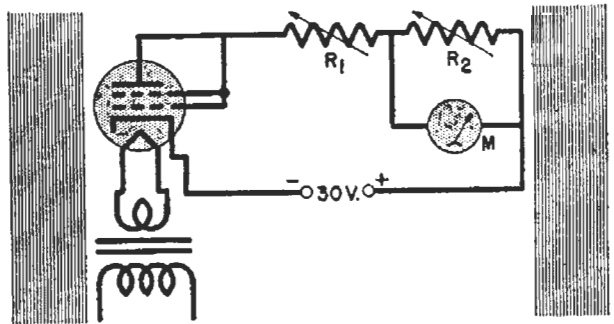

FIG. 22. The basic emission tester circuit.
► Since emission tests are all that could be made on diodes, it is natural to consider checking just the emission of all tubes, assuming that if the cathode emission is normal, the mutual conductance and other factors are probably acceptable. This led to the development of the emission type tester, in which all tubes are converted to diodes and the plate current is measured. The basic circuit for a tester of this type is shown in Fig. 22.